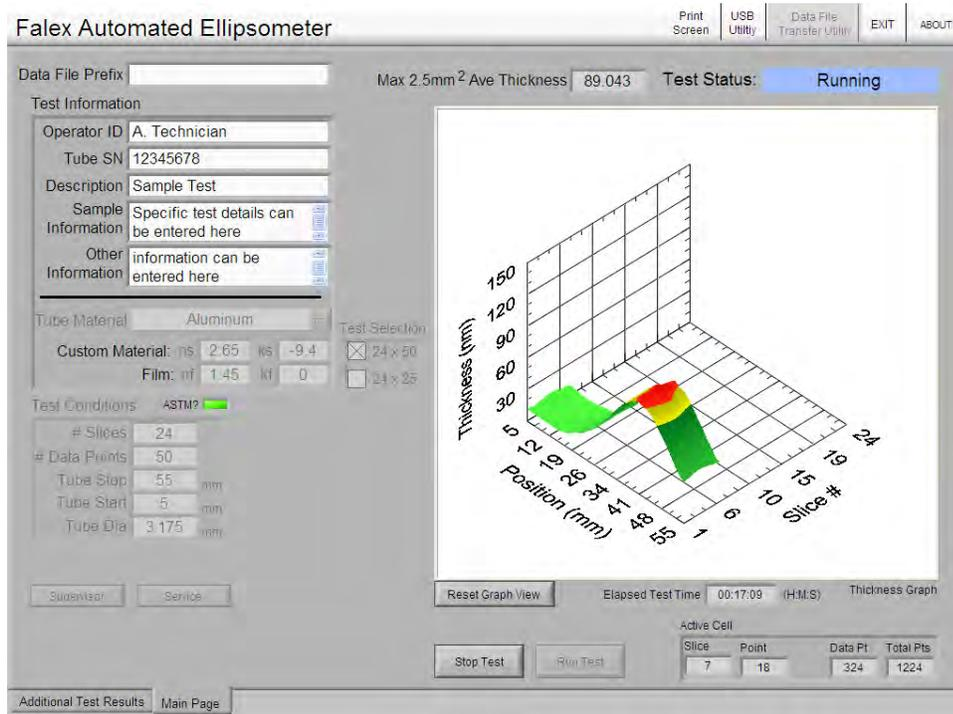

Figure 16 – Main Test Page Features
14. The 'Main Test Page' has the following features (figure 16):